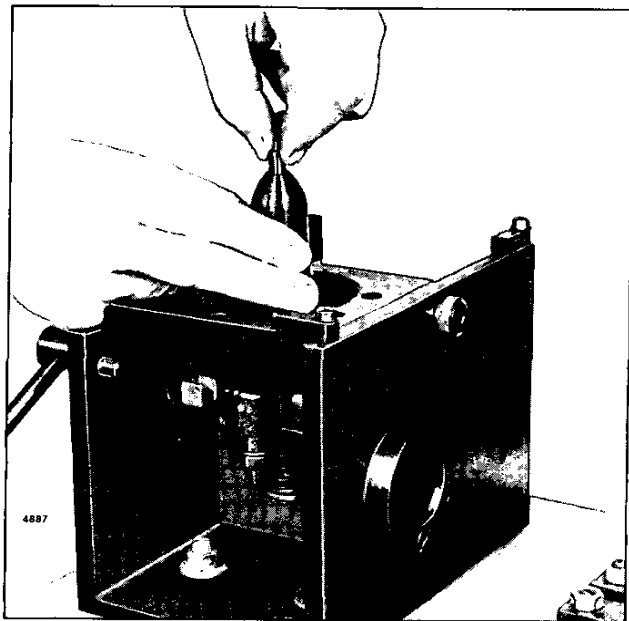

Fig. 30 – Tightening Injector Nut by Hand
19. Lubricate the threads in the injector nut and carefully thread the nut on the injector body by hand. Rotate the spray tip between your thumb and first finger while threading the nut on the injector body (Fig. 30). Tighten the nut as tight as possible by hand. At this point there should be sufficient force on the spray tip to make it impossible to turn with your fingers.